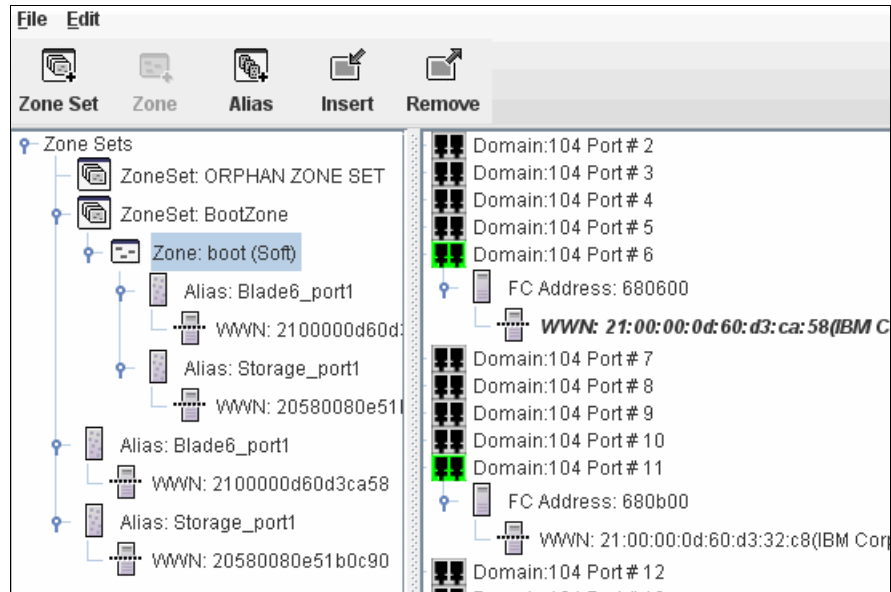

Figure 20-33 Final zoning configuration
- g. Drag and drop each alias to the Boot zone and the final configuration should be similar as shown in Figure 20-33 on page 615.